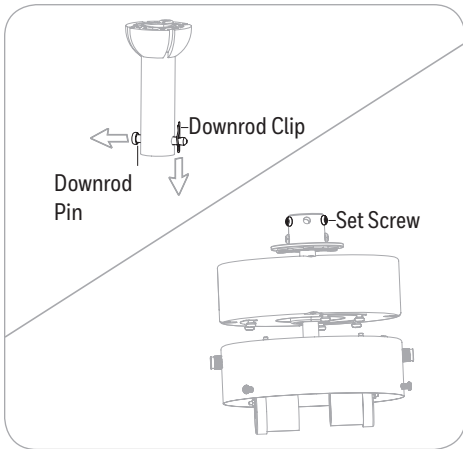

Figure 3.1
1. Feed the fan wires through the yoke cover, canopy cover, canopy, and downrod (Figure 3.1).